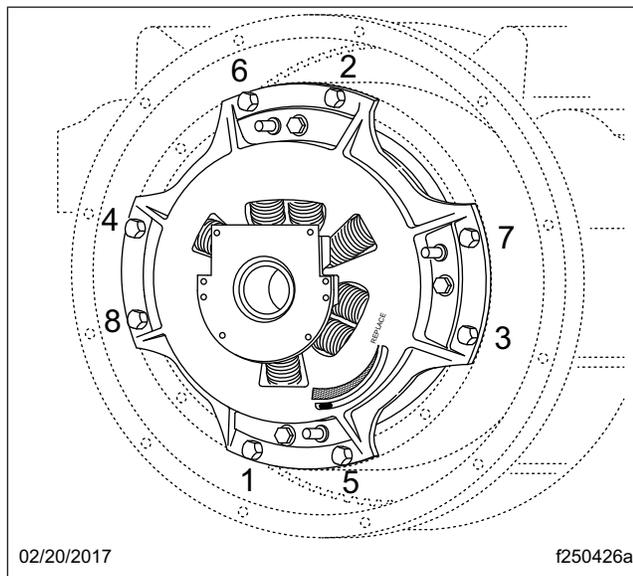

Fig. 2, Tightening Sequence
7. Progressively tighten the mounting bolts in a crisscross pattern starting with the lower left bolt. Torque to 45 lbf-ft (61 N-m). See **Fig. 2**.